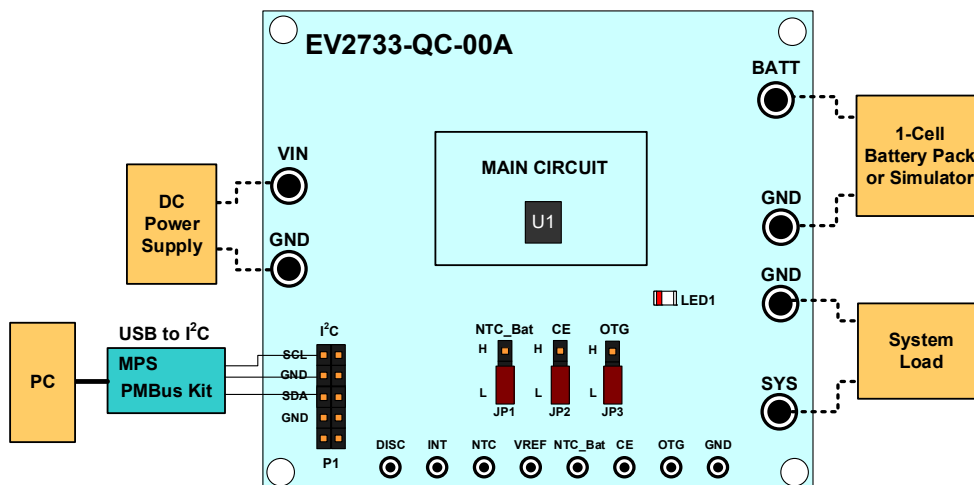

Figure 2: Test Set-Up for the MP2733
4. Configure the test set-up for the MP2733 (see Figure 2).